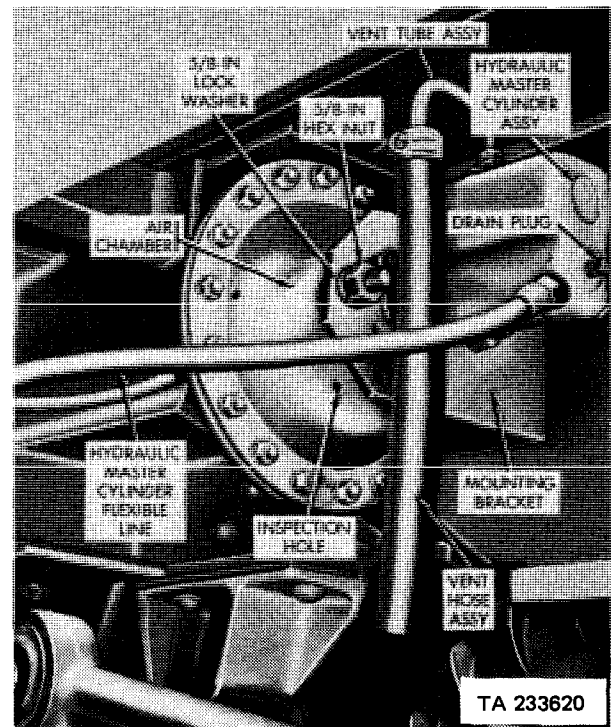

Figure 4-38. Hydraulic master cylinder
e. Hydraulic Master Cylinder (All Models Except M127). The hydraulic master cylinders (fig. 4-38) are installed and secured with the two air chambers to mounting brackets secured to chassis frame cross-members. Movement within the air chamber causes a corresponding movement of a piston in the hydraulic master cylinder. This movement causes hydraulic fluid in the hydraulic master cylinder to be put under pressure and forced into the wheel cylinders for a brake application. A filler cap is provided at the top of the hydraulic master cylinder's body for use when filling the cylinder with hydraulic fluid.
l. Air Chamber (All Models except M127). These air chambers (fig. 4-38) are installed and secured with the two hydraulic master cylinders to mounting brackets secured to chassis frame crossmembers. Compressed air admitted into the air chamber acts against a diaphragm to which a push rod is attached. Movement of this push rod in turn causes a corresponding movement of a piston in the hydraulic master cylinder thereby converting air pressure into hydraulic pressure for actuation of the brakes.
- (4) Remove vent tube assembly and filler cap from top of reservoir of hydraulic master cylinder (fig. 4-38). Fill reservoir with hydraulic brake fluid to within one-half inch of top.
- (5) While brake pedal on towing vehicle is being pumped slowly up and down, open bleeder screw three-quarter turn clockwise. Liquid will be forced through line to expel air which will show as bubbles in fluid coming out of tube.
- (6) Observe flow, keeping tube submerged in fluid. When air bubbles cease and stream is a clean, solid mass, close bleeder screw tightly. Remove tube.
- (7) Repeat operation at each wheel, replenishing the fluid in master cylinder reservoir as necessary.
- (8) Install filler cap and vent tube assembly in top of master cylinder reservoir.
- (2) To flush, remove vent tube assembly (fig. 4-38) and filler cap from top of hydraulic master cylinder and fill cylinder reservoir with denatured alcohol. As in bleeding procedures (b above), open each wheel cylinder bleeding screw in turn and pump brake slowly until the passage of clean fluid indicates a clean system. After flushing, repeat process using clean silicone brake fluid to force all of the flushing agent from the system.
- (3) To refill, remove vent tube assembly and filler cap from master hydraulic cylinder and add silicone brake fluid to a level of 1/2 to 3/8 inch below top of cylinder reservoir. Bleed system (b above). Install filler cap and vent tube assembly.